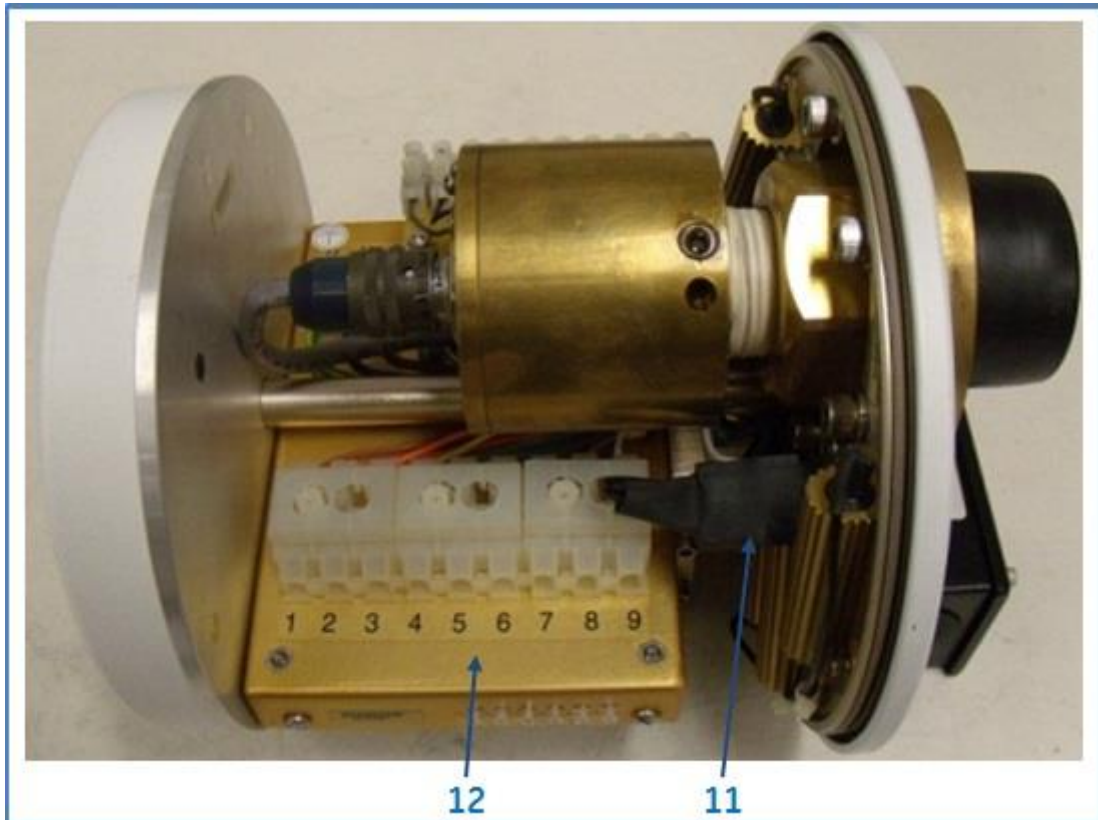

Figure 3-5: Second View of the Top Side of the I/O Module
11. *Thermostat* (in Figure 3-5 below): It stops the heating whenever the base plate temperature exceeds 100 °C.
12. *Alarm Contacts 9-Terminal Block* (in Figure 3-5: The terminal has a 300-V rating and accepts 22–14 AWG wires (2.5 mm² nominal). For wiring details, refer to Table D - 2 in Appendix D.
Detection of an open thermistor shuts the heating power off. In addition, a thermostat (item 11 in Figure 3-5) with a 100°C (212°F) rating is located on the heating plate to protect against any fault from the heating system.